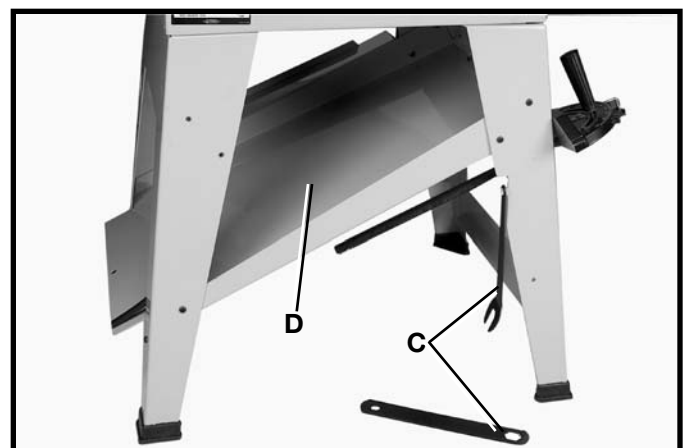

Fig. 56
3. Arbor wrenches (C) Fig. 56, can be stored on one of the two notched legs.
The saw stand support panel (D) Fig. 56, also serves as a natural built-in dust chute. This dust chute (D) allows the sawdust to escape out of the rear of the saw stand and away from the work area.